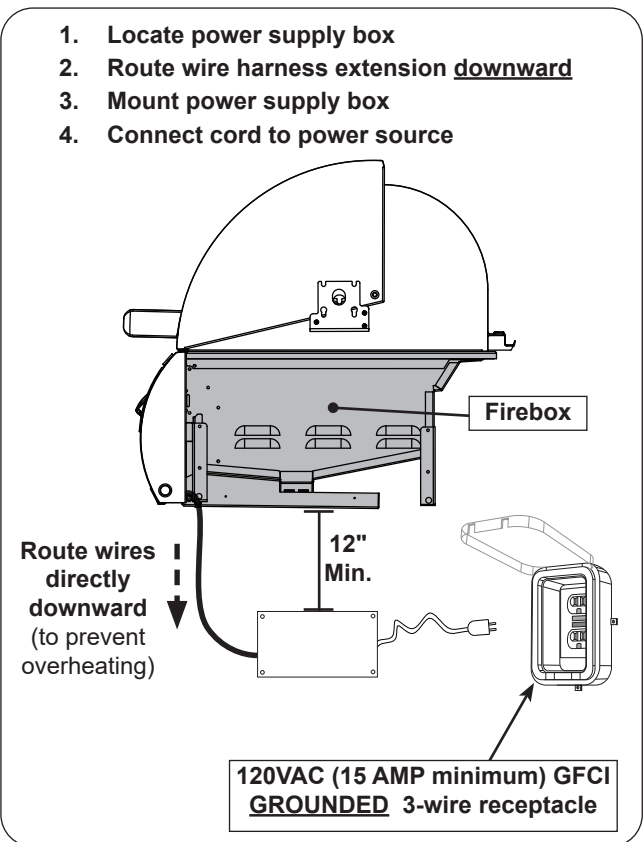

Fig. 29-2 Electrical installation
1. Route the power supply box below the control panel and directly downward. This will prevent overheating. **DO NOT** route the harness below the unit firebox. See Fig. 29-2.
- located at least **12"** below the bottom of the unit (see Fig. 29-2)
3. Connect the power cord to a **120VAC (15AMP minimum) GFCI GROUNDED three-wire receptacle** (see Fig. 29-2). The GFCI receptacle must be a WEATHER-PROOF IN-USE COVERED RECEPTACLE.